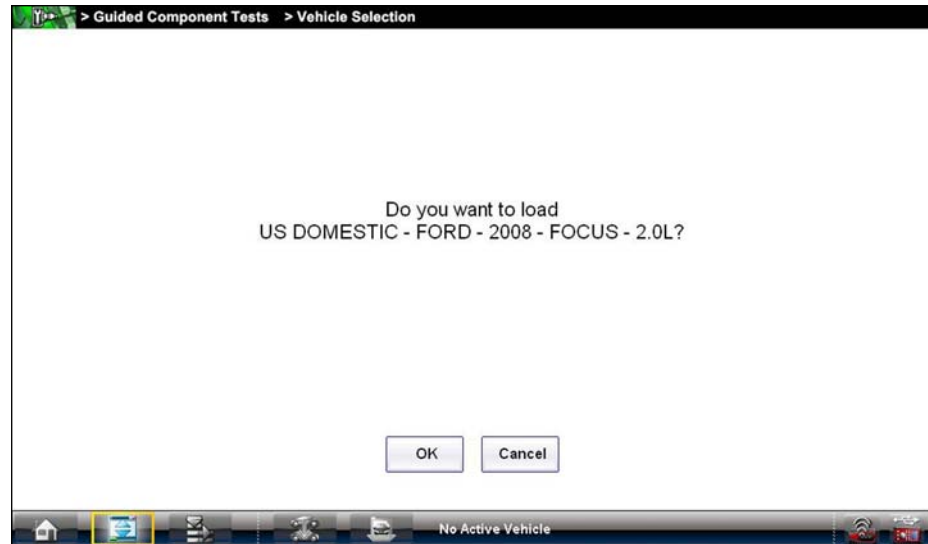

Figure 6-3 Sample confirmation dialog box
6. Select **2.0L** from the engine list and a confirmation dialog box displays (Figure 6-3).